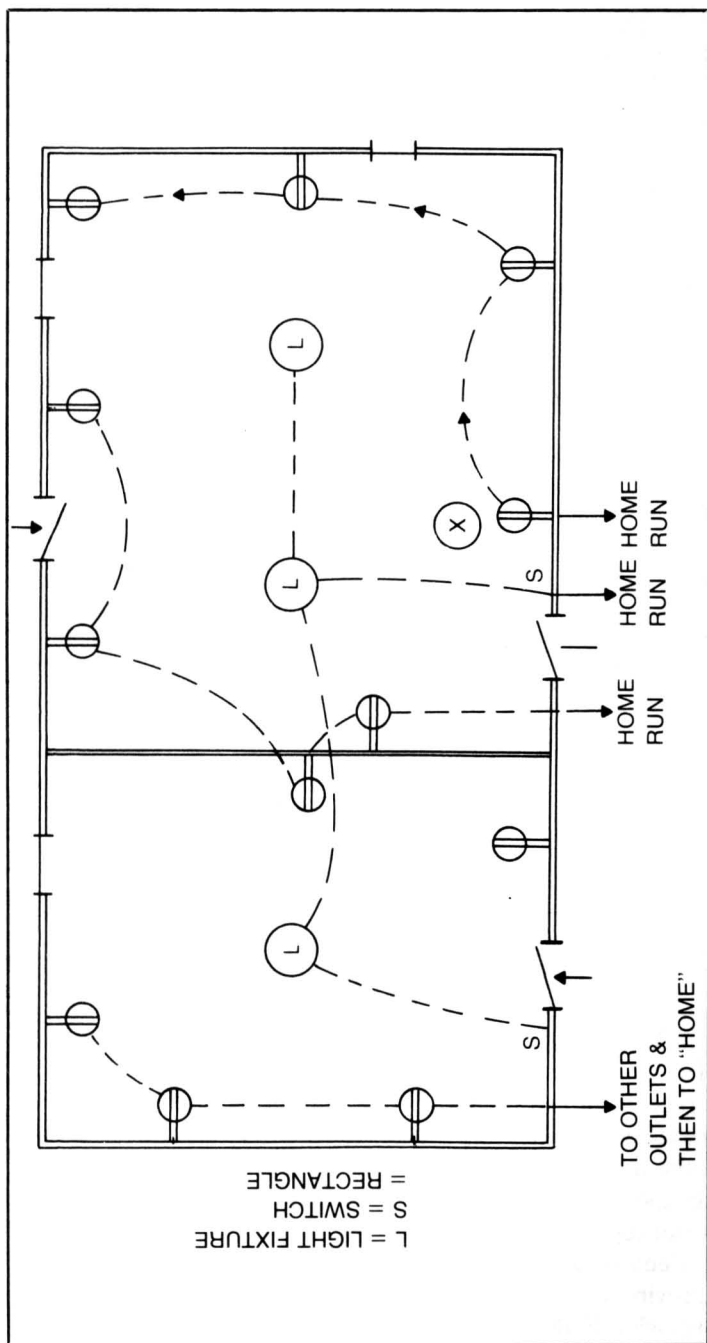

Fig. 5-9. An example wiring diagram for two homes.
Figure 5-9 is a simple sketch showing how some branch circuits are used to wire lights and receptacles. We have included the dotted lines to show the connecting cables which have two wires and ground (14/2). You can see in this simple example how the "takeoff" for the "homerun" is indicated. The "home" is the fuse or circuit-breaker panel.
Four basic circuits are shown. In the large room at the right of Fig. 5-9 we have only four receptacles on each circuit branch. An electrical contractor might put all eight of them on one branch circuit. We show four because, if this is a family room, you do not want all circuits on one branch. You might want a heavier loading on the circuits for the devices in that room. Lights are always on their own circuit. Additional lights in other rooms might be connected to this branch circuit.
nearest to the fuse or switch box. When you find the nearest one to the fuse or circuit breaker box and disconnect its wires, then all other receptacles "downstream" from this one, and connected to it, will not light a test lamp when power is turned on. Examine Fig. 5-9 and notice the (X), which is the receptacle nearest the circuit breaker panel on that particular branch circuit. The arrows in the dotted lines indicate that all lines are in parallel with the (X)